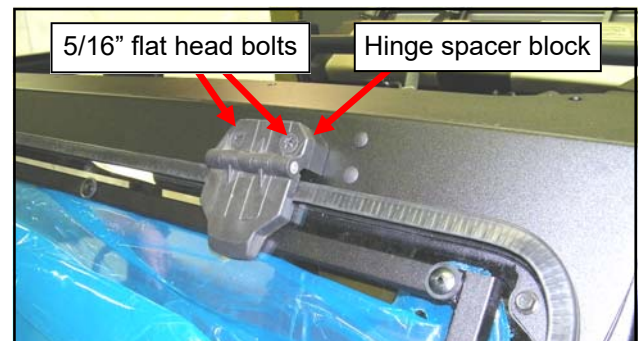

Fig. 10.1a (Windshield, outside)
10.1 Per figures 10.1a and b, place a hinge spacer block onto the windshield hinge and two flat head 5/16" bolts through each hinge. ***Note: for glass windshields, use the thinner 5/8" thick hinge spacer blocks found in the windshield box. For polycarbonate windshields, use the thicker 3/4" thick hinge spacer blocks found in the hardware box.*** Place the windshield onto the windshield support with the bolts through the slots and secure with 5/16" nuts.